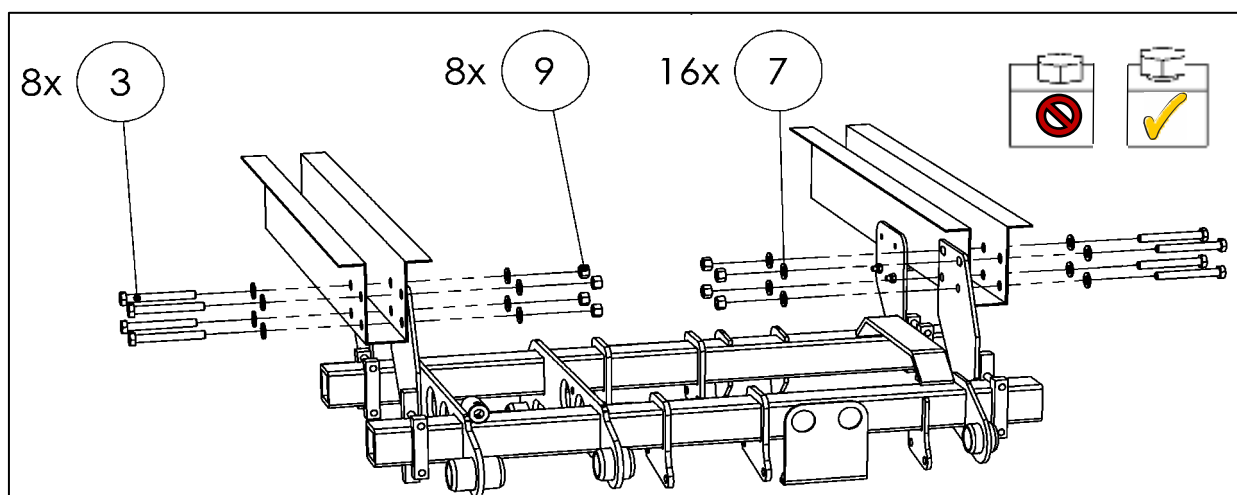

Fig. 27
- Raise the lifting gear. Insert the rear bolts (**installation adapter kit – Part No. 22 911 217 or 22 911 235**) as viewed in the forward direction of travel and tighten until hand-tight as shown in Fig. 27.